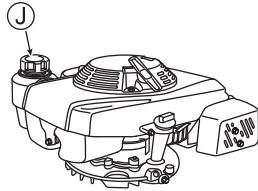

Fig. 9
- 1 Open Fuel tank cap (J) and refuel gasoline. Immediately wipe off with a rag if gasoline is spilt. (See Fig. 9)
- 2 Firmly close Fuel tank cap (J) after refueling.